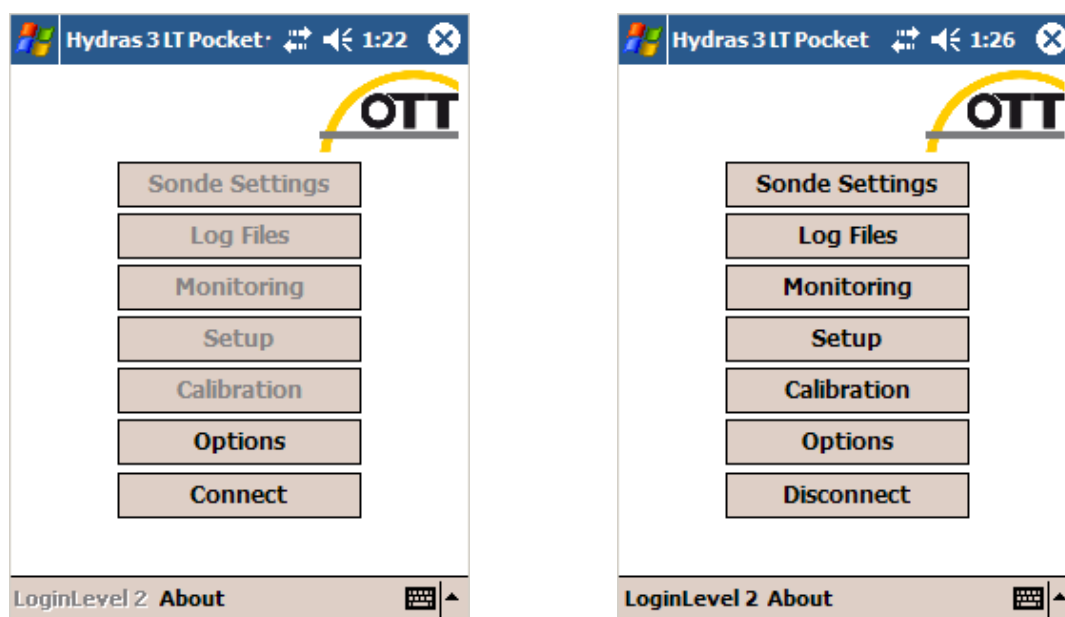

Figure 2 Hydras 3 LT Pocket main screen before and after connection to a sonde
2. Open Hydras 3 LT Pocket from the **START** menu on the PDA. The main screen will be displayed (Figure 2).
The Hydras 3 LT Pocket main screen (Figure 2) contains seven options for sonde operation or data management. Each option is detailed in Table 1.